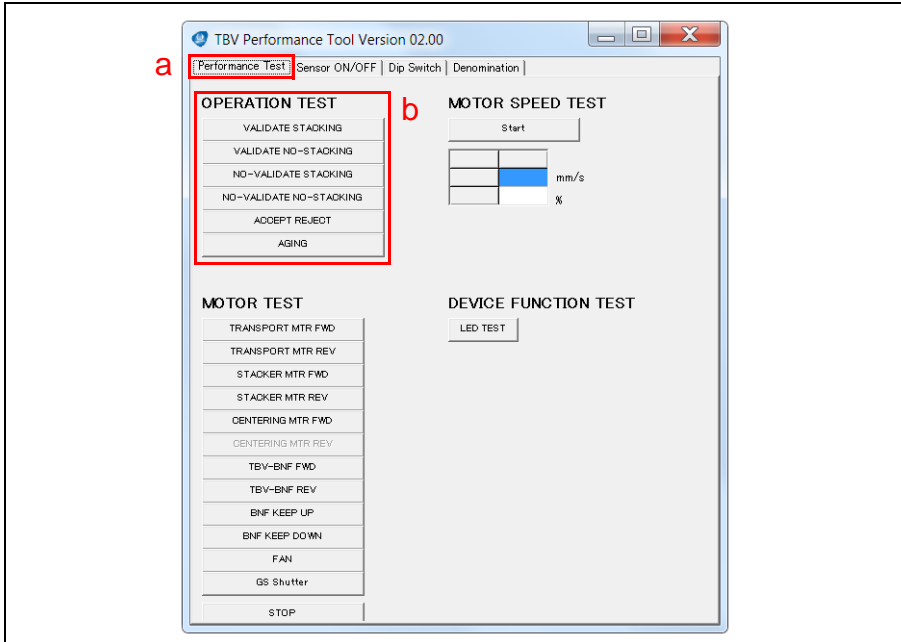

Figure 9 TBV Performance Tool - Operation Test Options
1. Click the Performance Test tab (Figure 9 a).
2. In the OPERATION TEST Section (Figure 9 b), click the desired Test Screen Button to begin the test.